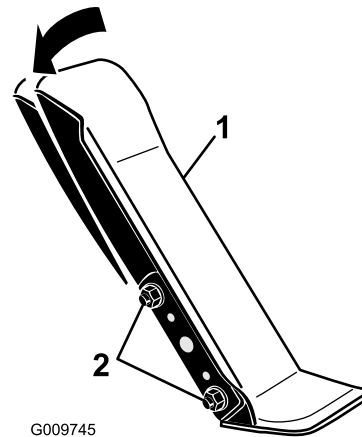

Figure 67
1. Loosen the two nuts and bolts securing the left side of the traction pedal to the bracket (Figure 67).
2. Pivot the pedal to the desired operating angle and tighten the nuts (Figure 67).